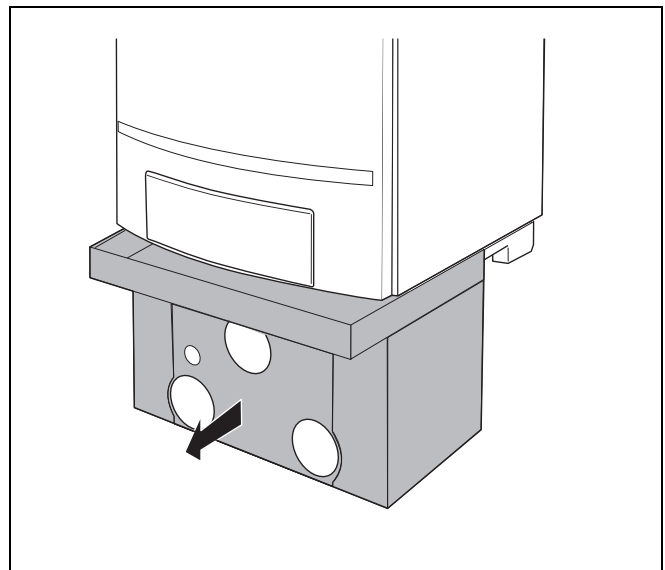

fig. 8 Removing the lower casing
- Remove the lower casing from the connection group (fig. 8).